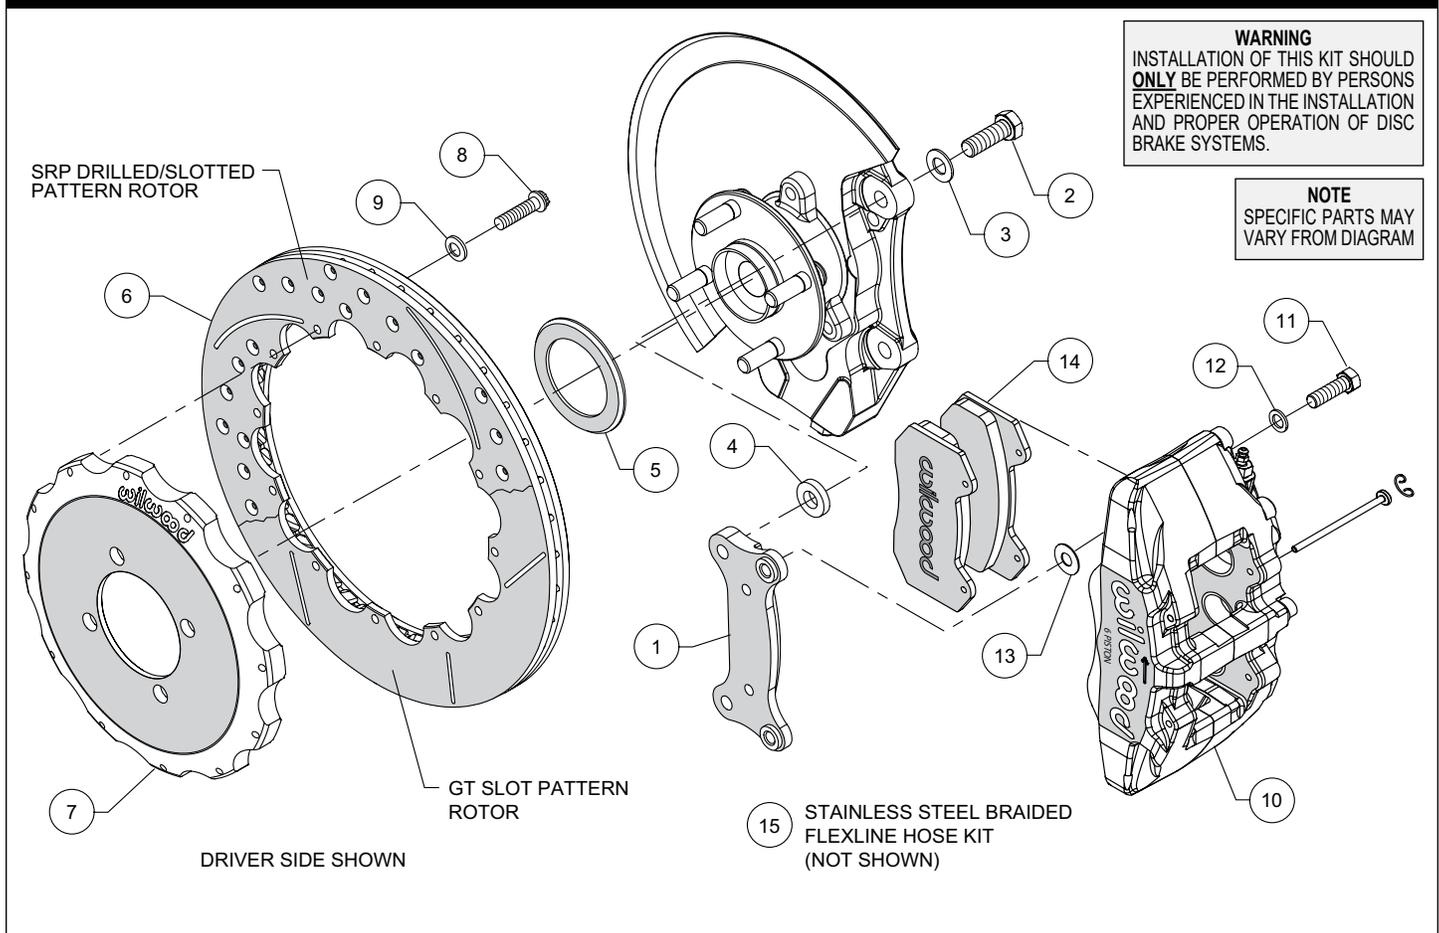
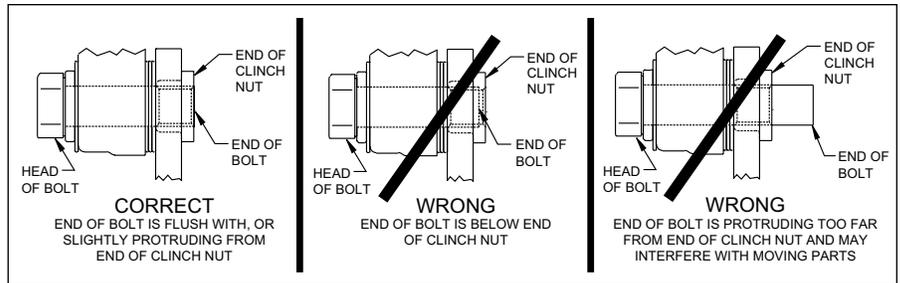

Figure 1. Typical Installation Configuration
Figure 3. Clinch Nut Engagement Diagram
NOTE: Numbers in parenthesis refer to the parts list and Figure 1 on the preceding pages.
CAUTION: All mounting bolts must fully engage clinch nuts. Be sure to check that all bolts are either flush or protruding through flanged side of clinch nut after shimming, Figure 3.
- Orient the caliper mount bracket (1) as shown in Figure 1 and Photo 1, and install using bolts (2) and washers (3). Place a spacer (4) on each bolt between the bracket and upright mounting boss, Figure 1 and Photo 2. Ensure that the flanged heads of the clinch nuts in the bracket are facing outboard, Photo 1. Temporarily tighten the mounting bolts. **NOTE:** The bracket must fit squarely against the mount bosses on the upright. Inspect for interference from casting irregularities, machining ridges, burrs, etc. Remove bolts one at a time, apply red *Loctite*® 271 to the threads and torque to 60 ft-lb.
- Orient the rotor (6) and the hat (7) as shown in Figure 1 and Photo 3. Attach rotor to hat using bolts (8) and washers (9). Apply red *Loctite*® 271 to the bolt threads and torque to 155 **in-lbs** using a criss-cross pattern.
- Slide the rotor registration adapter (5) onto the axle register on the axle hub with the smaller O.D. facing toward the rotor/hat (6/7), Photo 4. Slide the hat/rotor assembly onto the axle hub, Photo 5. **NOTE:** The hat must fit flush against the axle hub flange or excessive rotor run out may result. Install three lug nuts (finger tight) to keep the hat/rotor assembly in place while continuing with the installation.
- NOTE:** Please reference the caution statement at the beginning of the assembly instructions. This kit contains distinct right and left hand calipers that must be mounted in a specific direction, as described below. Mount the caliper (10) onto the caliper mounting bracket (1) using bolts (11) and washers (12), as shown in Figure 1. Initially place one .035" thick shim (13) on each bolt between the caliper and the bracket, Photo 6. Ensure that the caliper is mounted so the largest pistons are at the rotor exit end of the caliper, in relation to the direction of rotor rotation. Temporarily tighten the mounting bolts and view the rotor (6) through the top opening of the caliper. The rotor should be centered in the caliper, Photo 7. If not, adjust by adding or subtracting shims between the bracket and the caliper. Always use the same amount of shims on each of the two mounting bolts. **NOTE:** The end of each bolt must be flush with or slightly protruding from the head of the clinch nut, as shown in Figure 3. If necessary place spare shims between washer (12) and caliper mounting ear to achieve the proper clinch nut engagement. Once the caliper alignment and clinch nut engagement are correct, remove the mounting bolts, shims and caliper.
- Remove the two pad retaining pins from the caliper (10) by carefully popping out the pin retaining clips and sliding out the pins. Insert the brake pads (14) into the caliper from the bottom, Figure 1 and Photo 8, with the friction material facing the rotor. Secure the brake pads in place with the pad retaining pins and clips, Photo 9. Reinstall the